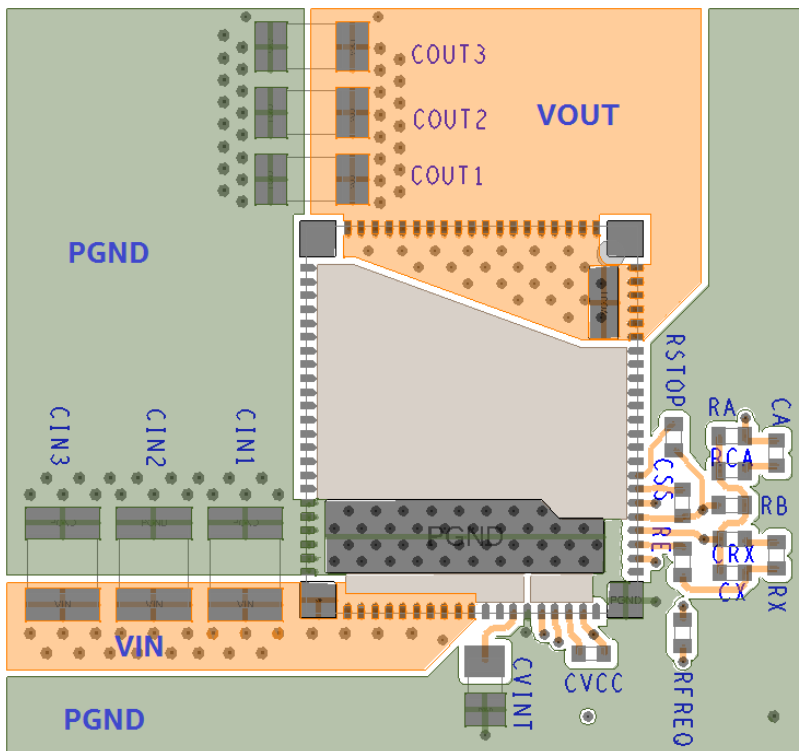
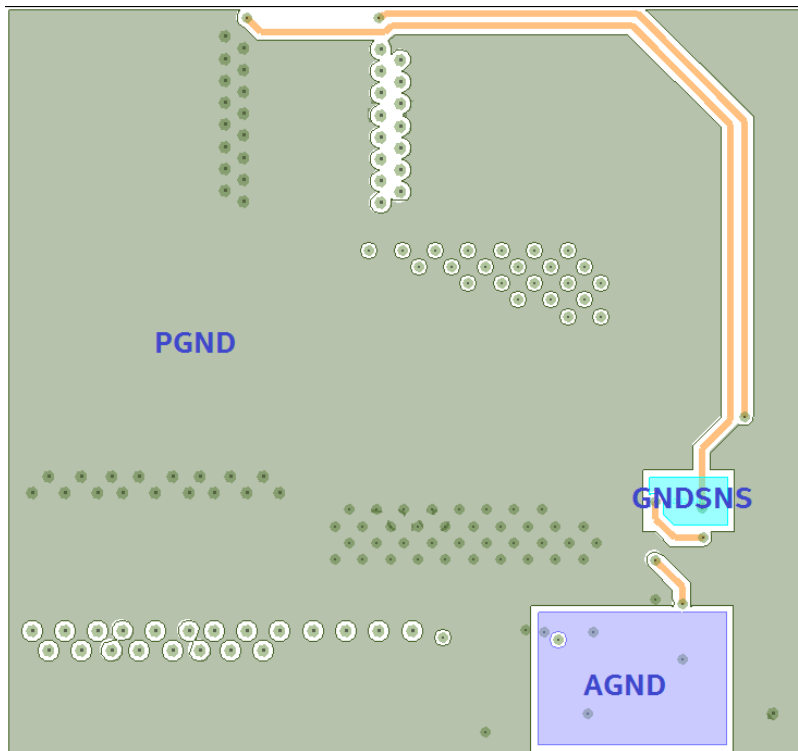

Figure 10: Top PCB Layer Critical Components and Copper for Minimum Footprint (Top View)
Figure 12: Inner Layer 3 – Grounds
**Recommendation 4:** The corner pads (Pins 87-90) are not connected internally and maybe connected to nearby planes for ease of layout. Figure 9 and Figure 10 show Pin 89 connected to the VIN plane and Pin 90 connected to the PGND plane.
**Recommendation 8:** Keep RA, CA, RCA, RX, CX, RCX and RB close to the VFB pin (see Figure 10). Keep the trace to VFB pin as short as possible. Whenever possible, connect RB directly to the GNDSNS pin instead of going through the GND plane. The AGND should connect to the PGND at a single point from the AGND pin to the 3rd layer PGND plane (shown in Figure 12).
**Recommendation 9:** The layer 1 metal under the device must not be more than shown in Figure 10. See the following section regarding **Exposed Metal on Bottom of Package**. As with any switch-mode DC/DC converter, try not to run sensitive signal or control lines underneath the converter package on other layers.